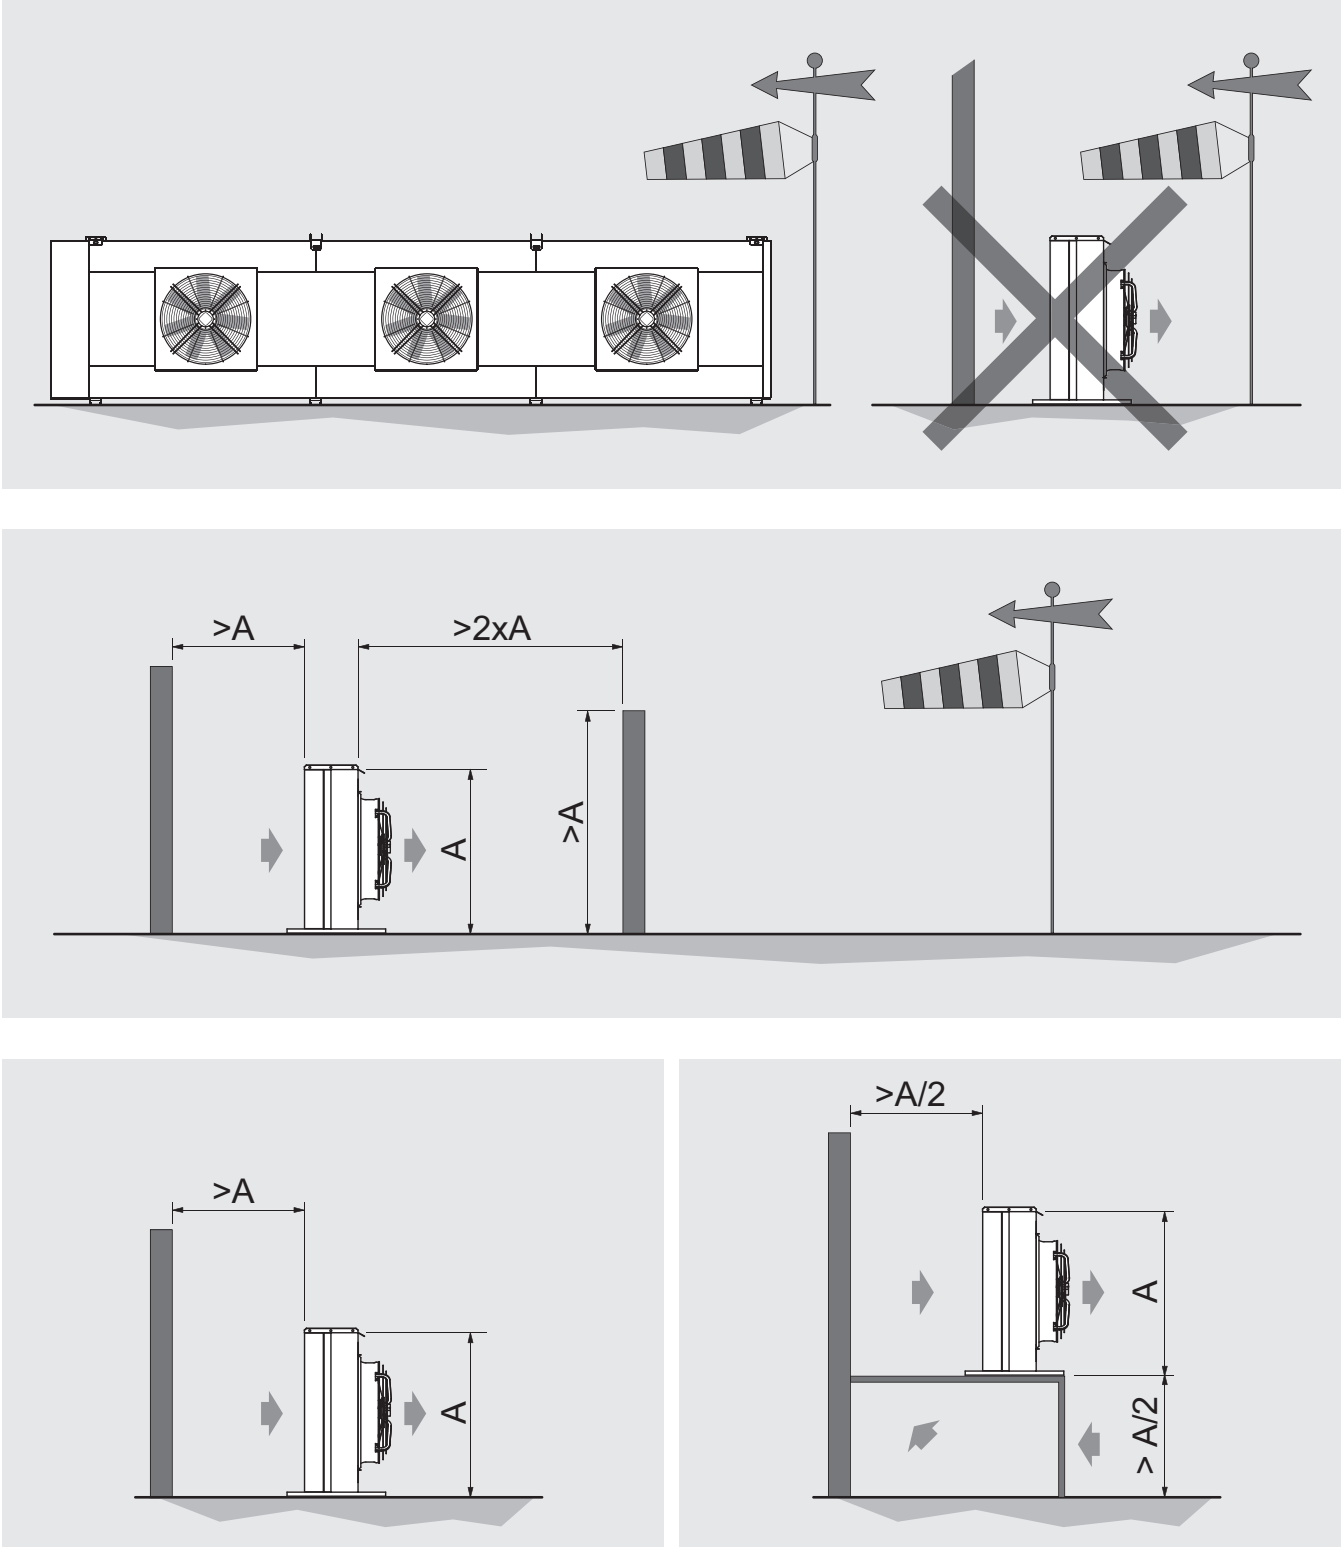

Figure 5
6.6 Provide space adequate to the circulation of air and for maintenance. Avoid directing the air flow against surfaces that are reflective or that otherwise increase the noise level. The minimum space between the models may be reduced according to the height of positioning with the use of special raised IKCES or a support platform. For installations that are different from what is indicated, contact Modine. See Figure 5.